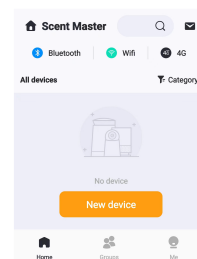

Figure 8
- (1). Open [online Mode], and click the [New device] or [WIFI] icon (Figure 8).